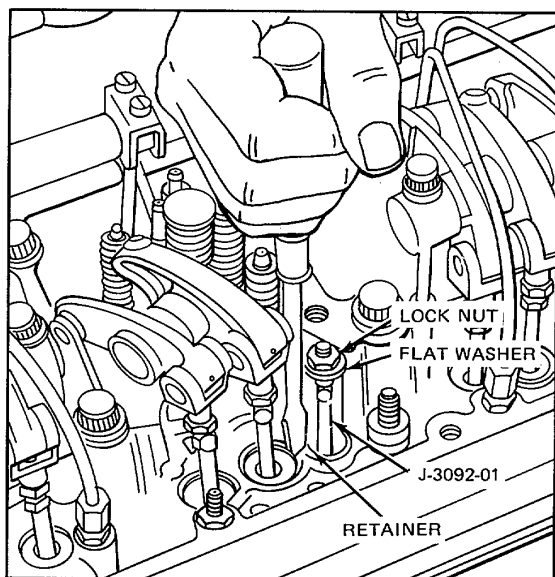

Figure 2. Removing Push Rod from Upper Side of Cylinder Head
5. Remove the spring seat retainer from the groove in the cylinder head (Fig. 2).